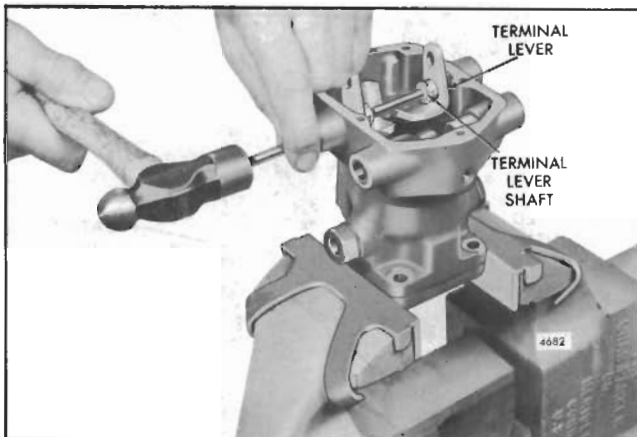

Fig. 11 - Removing Cup Plug from Governor Housing
15. If necessary, the speed adjusting lever (16), floating lever (55), spring fork (53), speeder spring (52) and pilot valve plunger and spring seat assembly, may be disassembled as follows:
- a. Straighten the bent end of the wire pin (60) securing the speed adjusting lever and spring fork to the speed adjusting floating lever.
17. Place a 1/4" brass rod approximately 5" long through the terminal lever shaft opening in the governor housing and terminal lever and against the inner end of the second terminal lever shaft. Then drive the governor housing cup plug out of the housing boss as shown in Fig. 11.